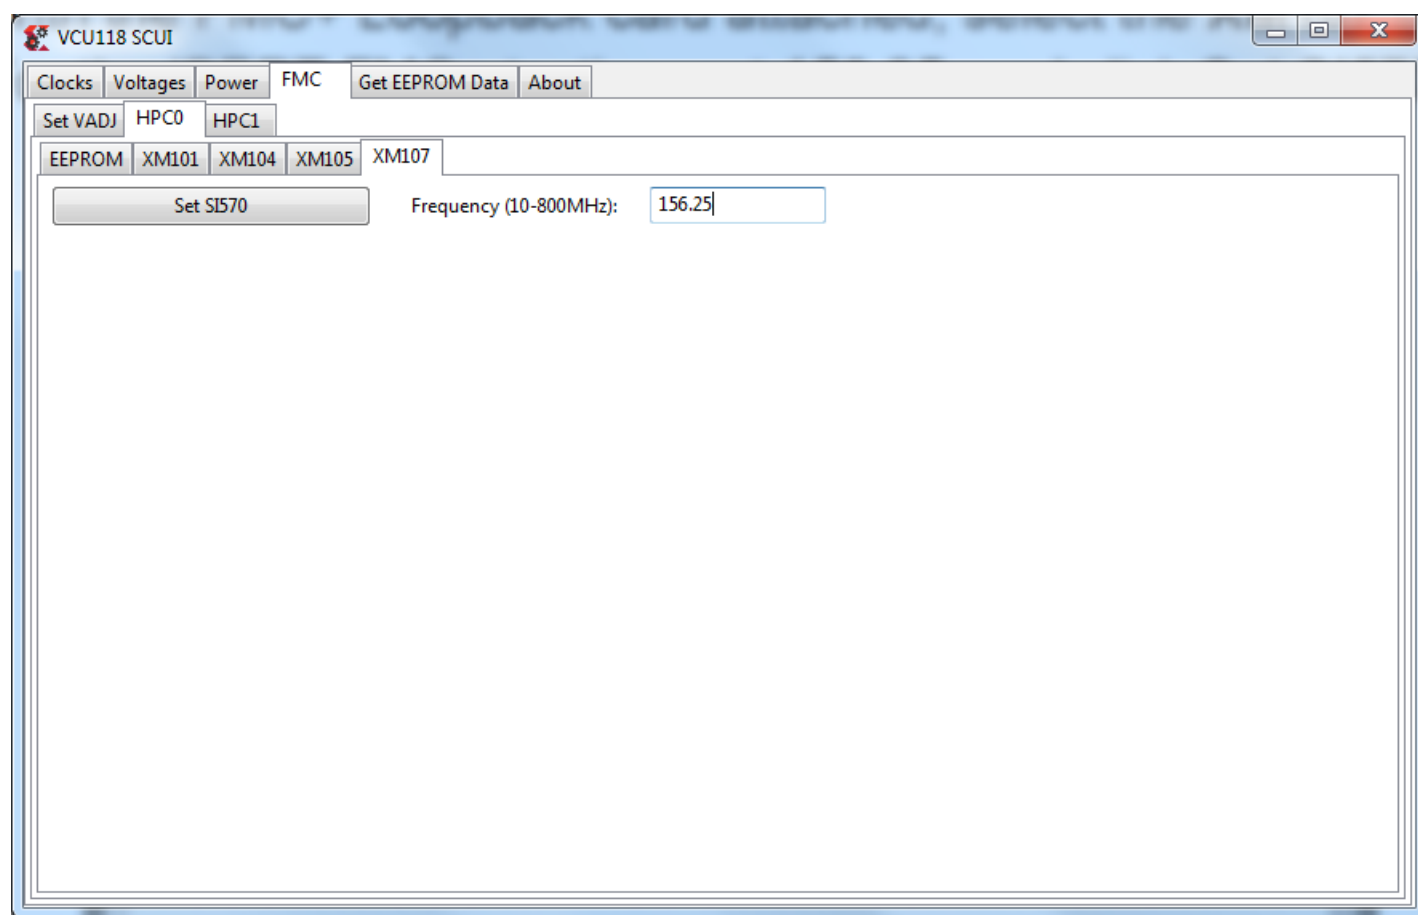

Figure 11: Reference Clock Setup on FMC+ Loopback Board
2. Set 156.25, and click Set SI570 button, as shown in Figure 11.